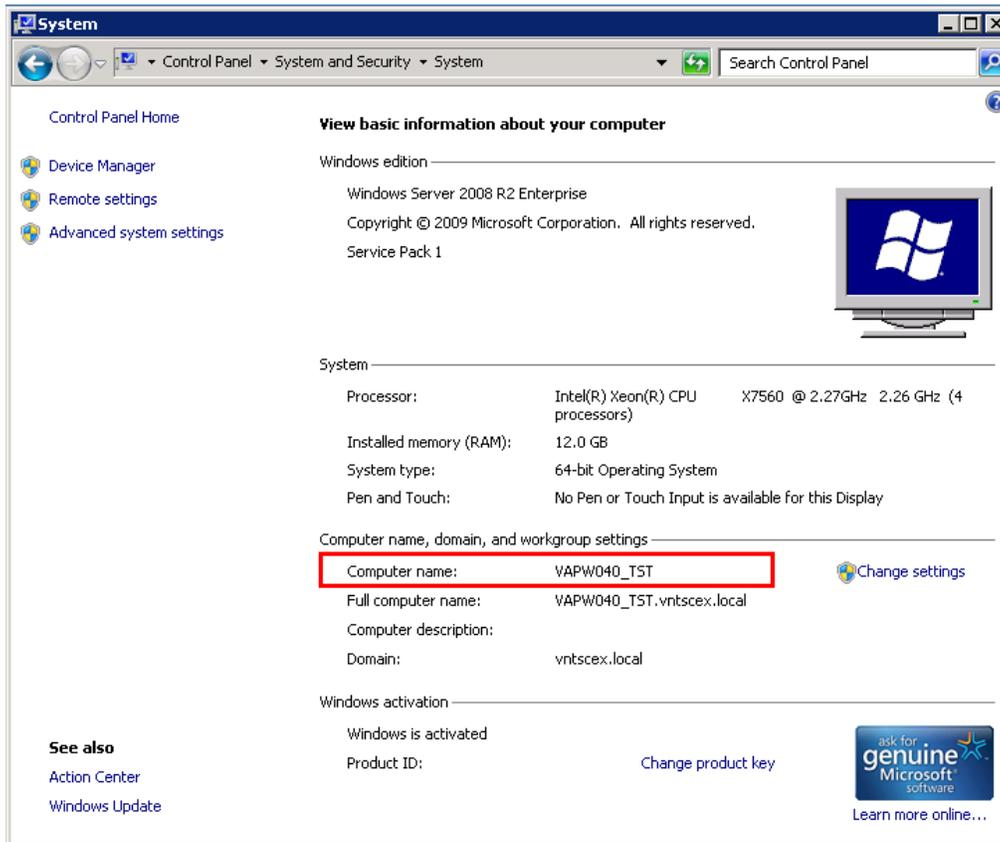

Figure D-2 System Properties in Windows 7
- a. Navigate to *Start* menu, *Control Panel, System and Security, System* (Figure D-2).